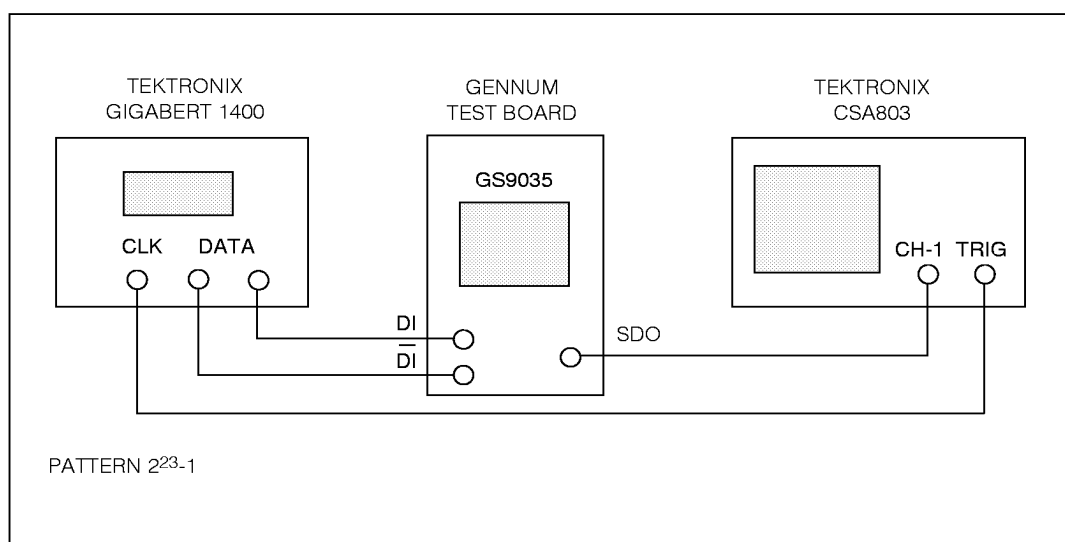

Fig. 5 Jitter Measurement Test Setup
5. Evaluated using test set up Figure 5.